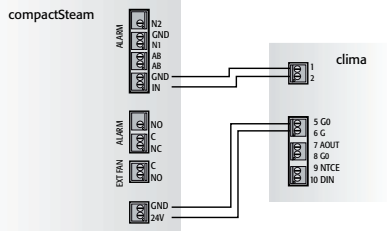

Fig. 3
9. collegare i due dispositivi seguendo lo schema in Fig. 3;
9. connect the two devices as shown in Fig. 3 diagram;